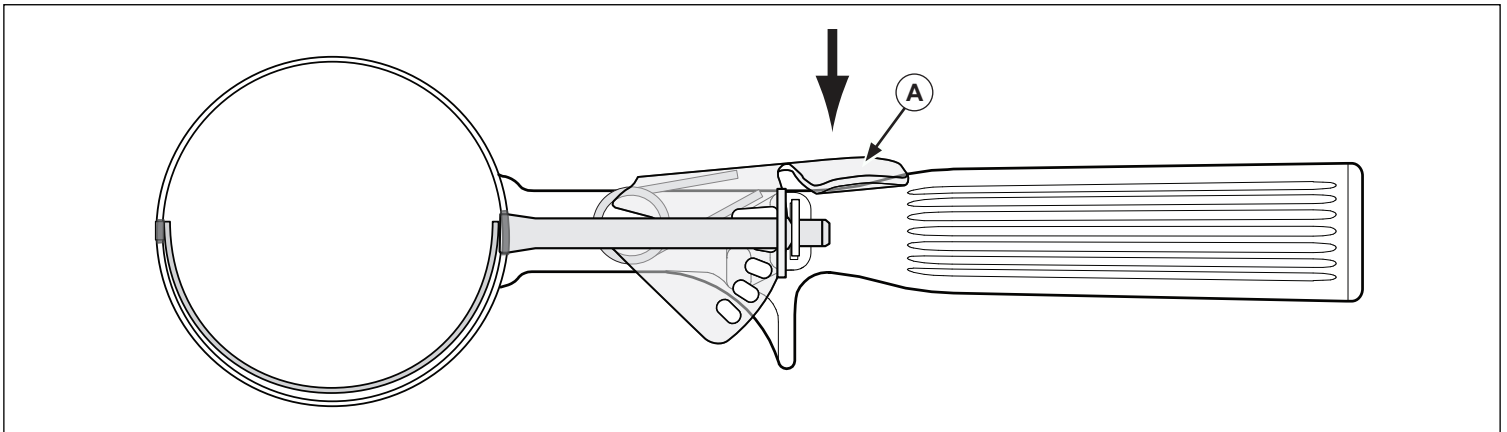

Figure 2. Gear Rack in the Down or In Position.
2. Push down and hold the gear rack (A). See Figure 2.